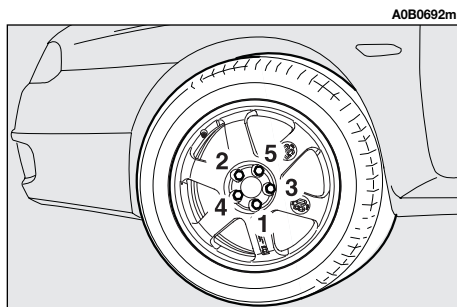

fig. 16
- tighten down the bolts in the sequence shown in **fig. 16**.